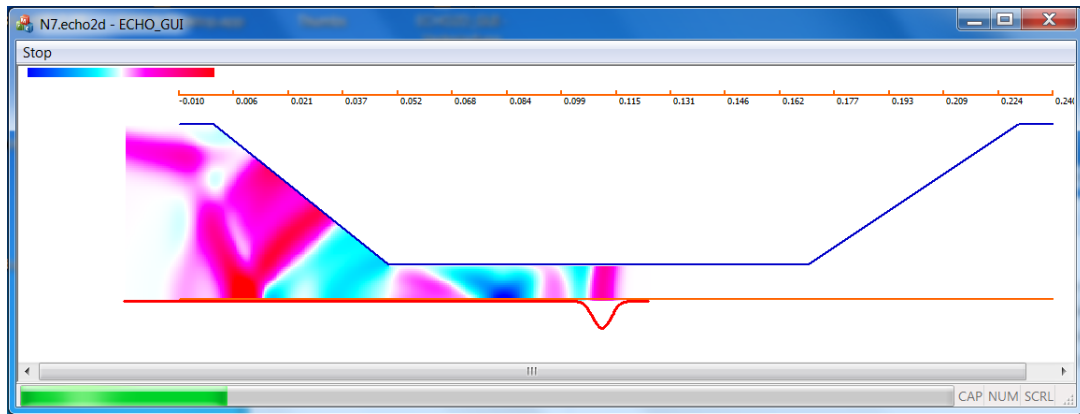

Figure 4.14: Geometry of flat tapered collimator with resistivity.
The collimator has geometry shown in Fig. 4.14 with *Width* = 0.01m defined in file **input_in.txt**. The bunch flies in ZY symmetry plane ($x_0 = x = 0$) and we calculate only odd modes *Modes* = 1 3 5 7 9 11 13 15. In order to calculate the longitudinal and quadrupole wakes we use *SymmetryCondition* = *magn* and proceed as follows:
- Go to menu "File/Open" and navigate to directory **Examples/ N7_TaperedResistiveCollimator/ ECHO2D**. Open the input file **N7.echo2d**. You should see the geometry shown in Fig. 4.14.